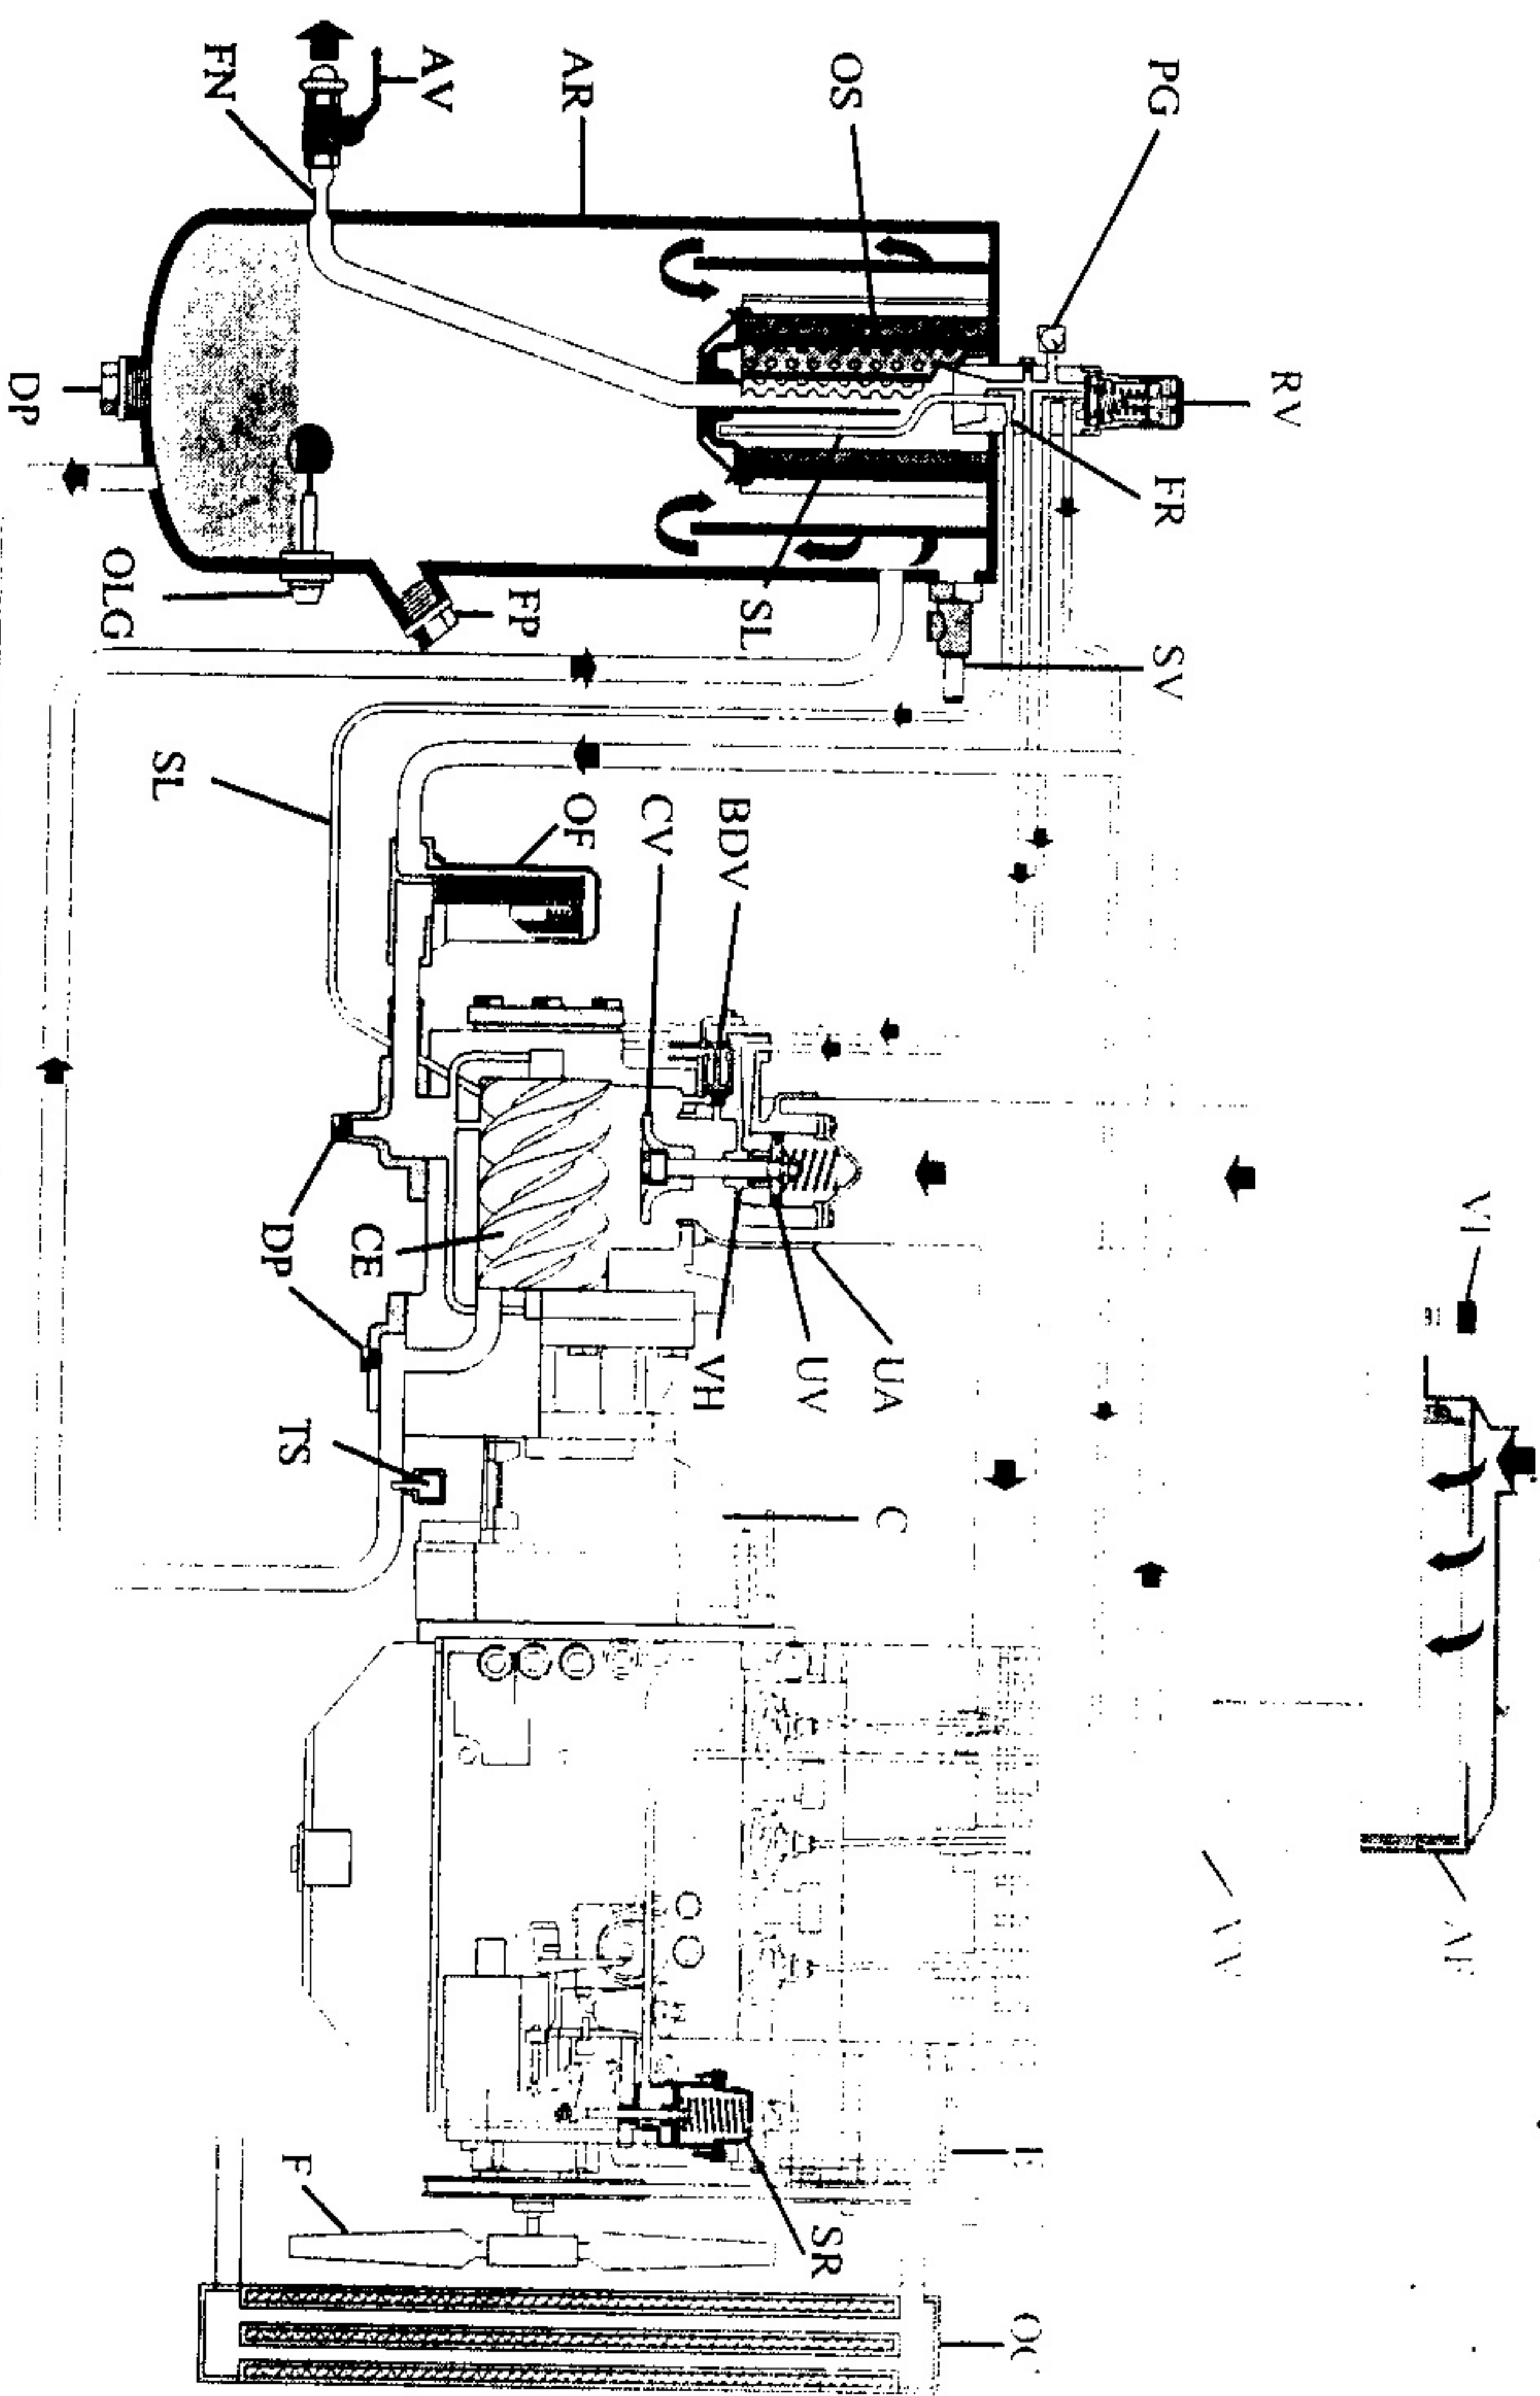

Fig. 2.3
2.5 AIR FLOW (SEE FIG. 2.3)
2.6 OIL SYSTEM (SEE FIG. 2.3)
2.7 CONTINUOUS REGULATING SYSTEM (SEE FIG. 2.3)
3. Check the level of the compressor oil. The pointer of oil level gauge (OLG - Fig. 2.3) should register in the green range. Add oil if necessary. See section 4.3 for the oil to be used.
! Before removing oil filler plug (FP - Fig. 2.3), ensure that the pressure is released by opening an air outlet valve.
6. Press vacuumator valve (VV - Fig. 2.3) of the air filter to remove dust.
7. Check the air filter service indicator (VI - Fig. 2.3). If the yellow piston reaches the red marked service range, replace the filter element. Reset the indicator by pushing the reset button.